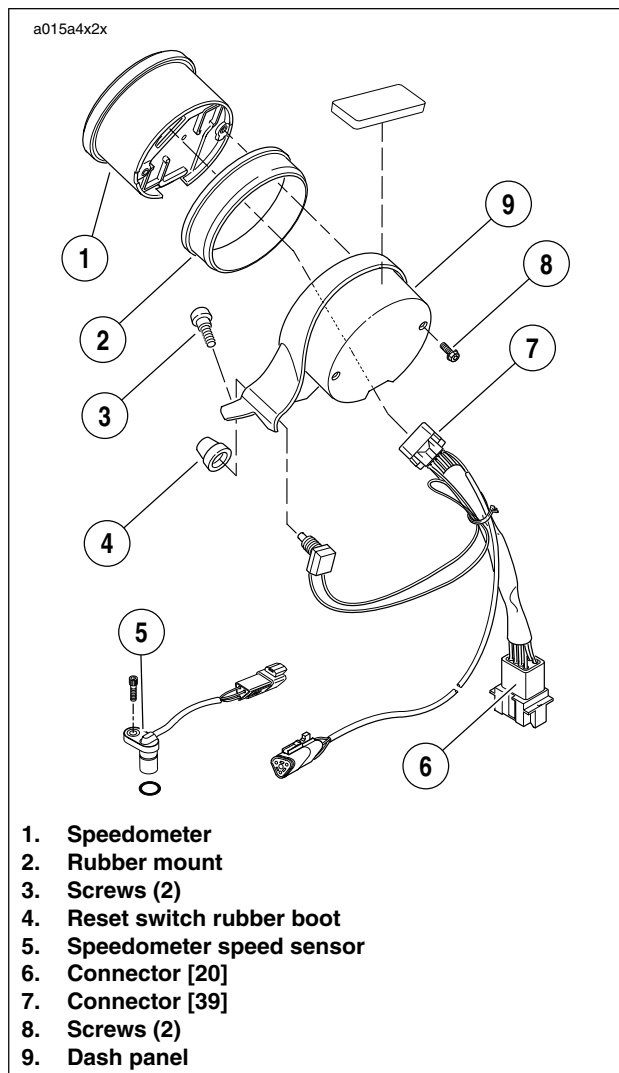

Figure 7-80. Speedometer
1. See Figure 7-80. Remove two fasteners holding dash panel to upper triple clamp.